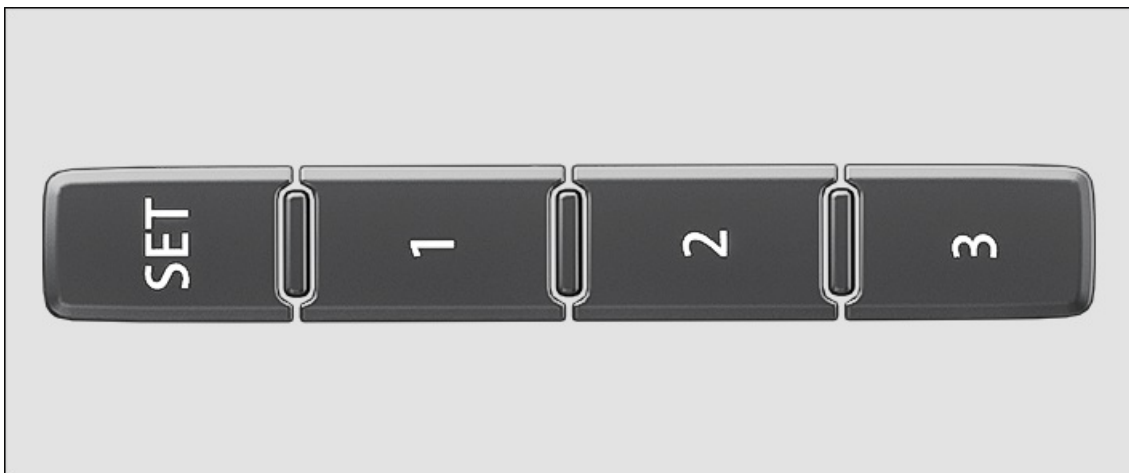

Fig. 75 On the outer side of the driver's seat: memory buttons.
5. Press and hold the **SET** button *fig. 75* for longer than one second.
6. Press the desired memory button *fig. 75* within approximately 10 seconds.
4. Press the desired memory button *fig. 75*.